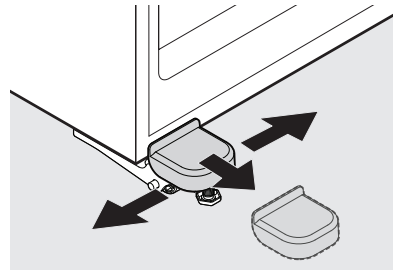

Figure 4
11. Remove the hinge cover by gently bending the tabs of the cover out while pulling the cover toward the front of the unit (some models, see Figure 4).